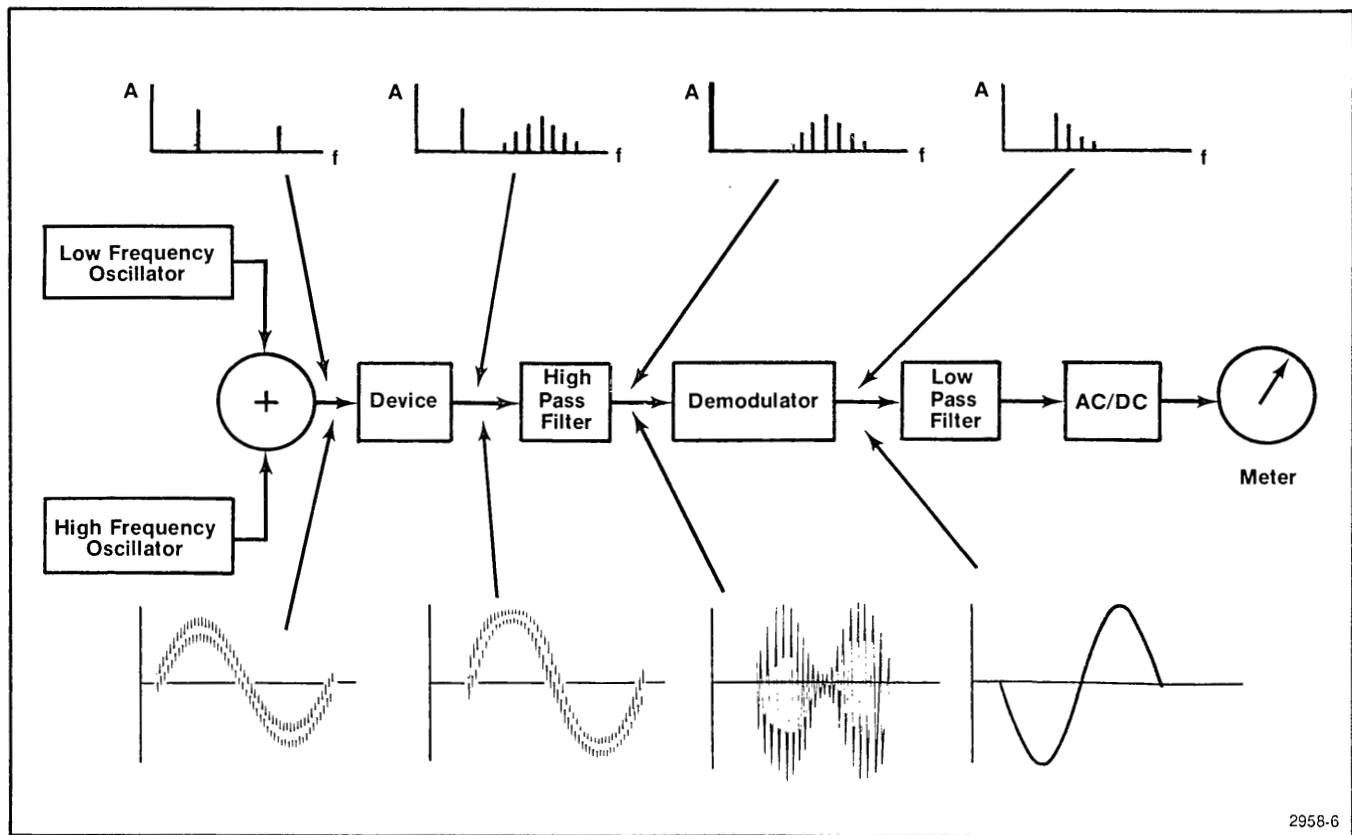

Fig. 2-7. Block diagram of basic IM analyzer.
To measure intermodulation distortion (IM), according to SMPTE and DIN standards, the device under test is excited with a low frequency and high frequency signal simultaneously (Fig. 2-7). The output signal is high-pass filtered to remove the low frequency component. The high frequency tone is then demodulated, as an AM radio signal. The demodulator output is low-pass filtered to remove the residual carrier (high frequency) components. The amplitude of the low frequency modulation is displayed as a percentage of the high frequency level.